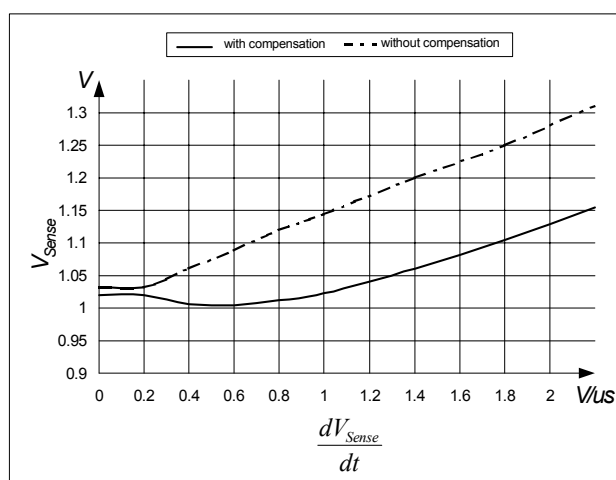

Figure 19 Overcurrent Shutdown
E.g. $I_{peak} = 0.5A$ with $R_{Sense} = 2$. Without propagation delay compensation the current sense threshold is set to a static voltage level $V_{csth} = 1V$. A current ramp of $dI/dt = 0.4A/\mu s$, that means $dV_{Sense}/dt = 0.8V/\mu s$, and a propagation delay time of i.e. $t_{Propagation Delay} = 180ns$ leads then to a I_{peak} overshoot of 12%. By means of propagation delay compensation the overshoot is only about 2% (see Figure 19).